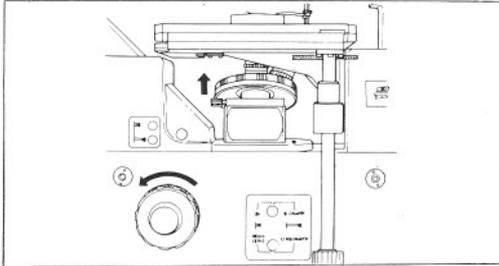

Fig. 32
- The arrows in Fig. 32 show the relation between the direction of rotation of the focus knobs and that of vertical movement of the objective nosepiece.